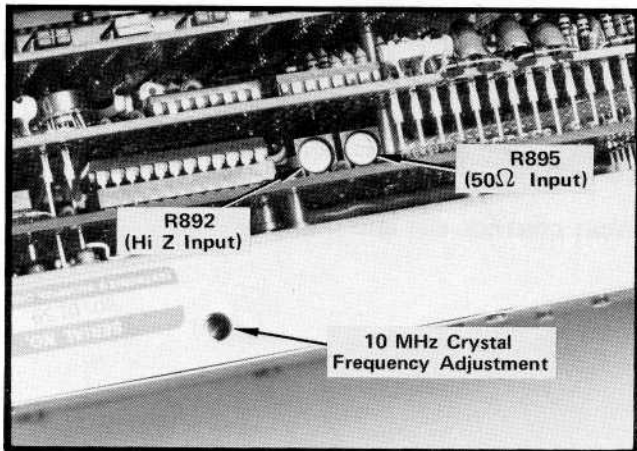

Fig. 4-2. Calibration adjustment locations for the Reference Oscillator and Calibrator.
6. Set the crystal frequency, with the adjustment illustrated in Fig. 4-2, so the calibrator frequency is within specifications.
3. Calibrate the reference oscillator frequency to 10.0000 MHz  $\pm$  20 Hz with the crystal adjustment illustrated in Fig. 4-2.
- f. Calibrate the output level of the Calibrator to the reference level, by adjusting R892 (Fig. 4-2).
- k. With pin B13 shorted, adjust the calibrator output with R895 (Fig. 4-2) until it equals the reference level of the signal source.